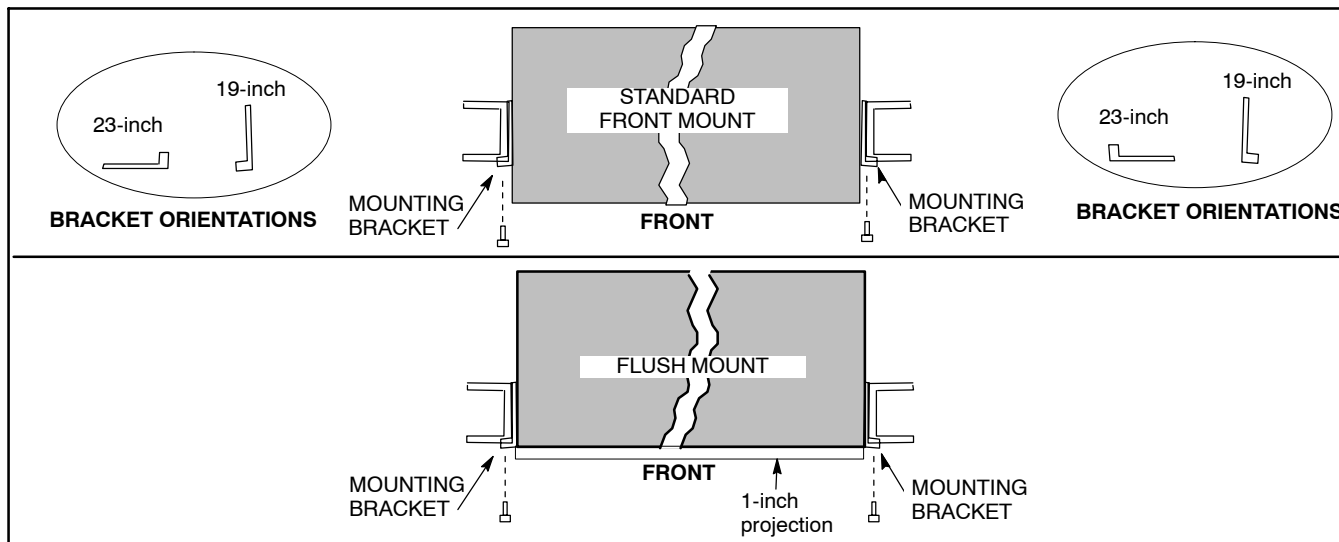

Figure 2. Mounting Bracket Orientation (Top View)
The position and orientation of the shelf mounting brackets depends on the type of rack used for shelf mounting. The shelf may be front mounted in a standard channel bulb-angle or cable-duct rack (5-inch projection) or rear mounted in an unequal flange duct type rack. Therefore, depending on the orientation of the shelf the mounting brackets will be mounted in one of three possible positions (see Figure 2). The shelf is also shipped with rack mounting hardware including screws in both metric and standard sizes.
2.	Position the brackets for the 19-inch or 23-inch relay rack (see Figure 2).